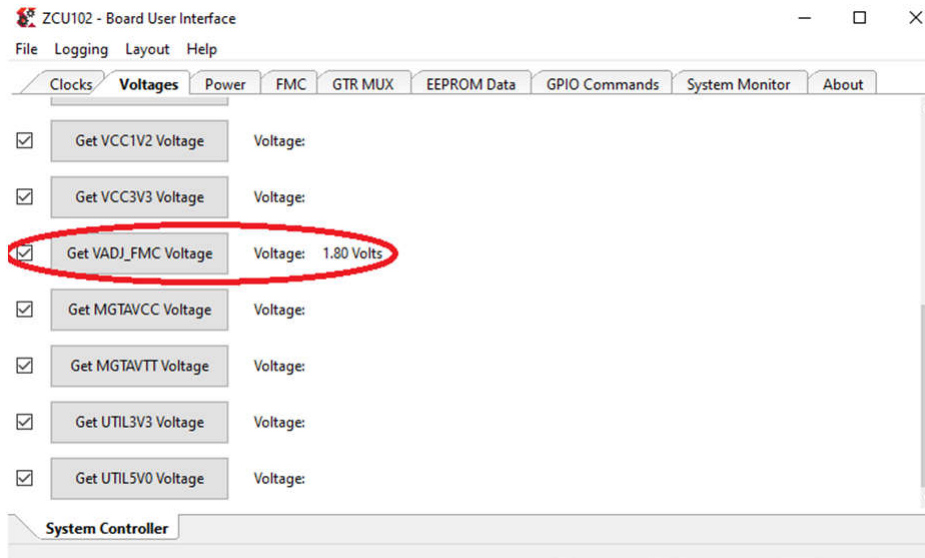

Figure 14-3. VADJ_FMC Voltage
- Confirm the same by reading the VADJ_FMC voltage. The voltage value must be 1.80V (see Figure 14-3).